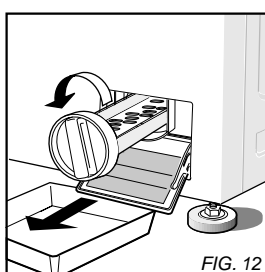

FIG. 12
2. Remove the filter by turning it a half turn counterclockwise and pulling outwards (Fig. 12).